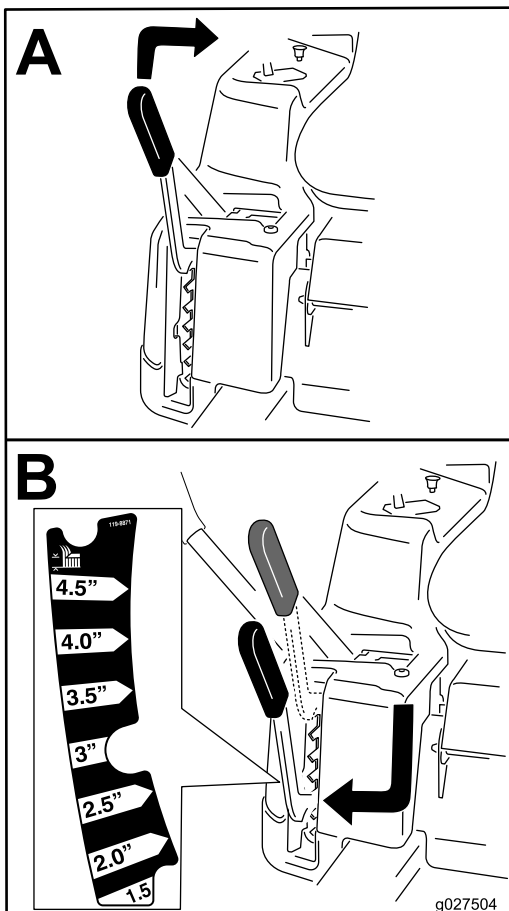

Figure 17
**Note:** The transport position is the highest height-of-cut position at 115 mm (4-1/2 inches) as shown in Figure 17.